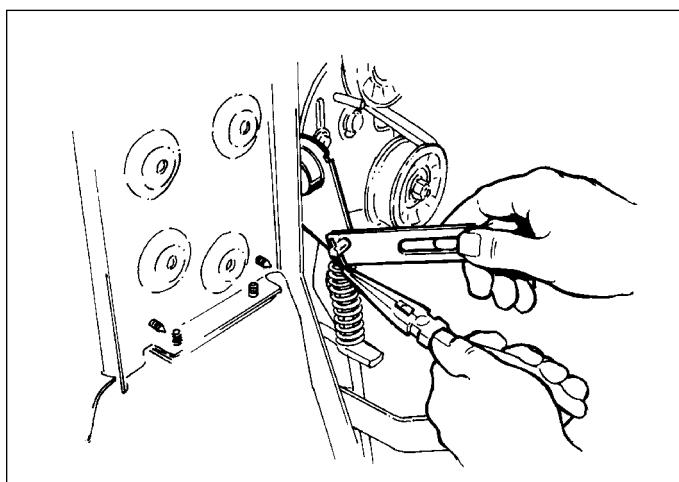

Figure B-29. Remove Upper Transport Lift Link & Lift Cam
4. See Figure B-29-Top. If necessary, the upper transport lift link can be removed from the lift assembly cam by removing the cotter pin. Inspect the upper transport lift link and replace as required.